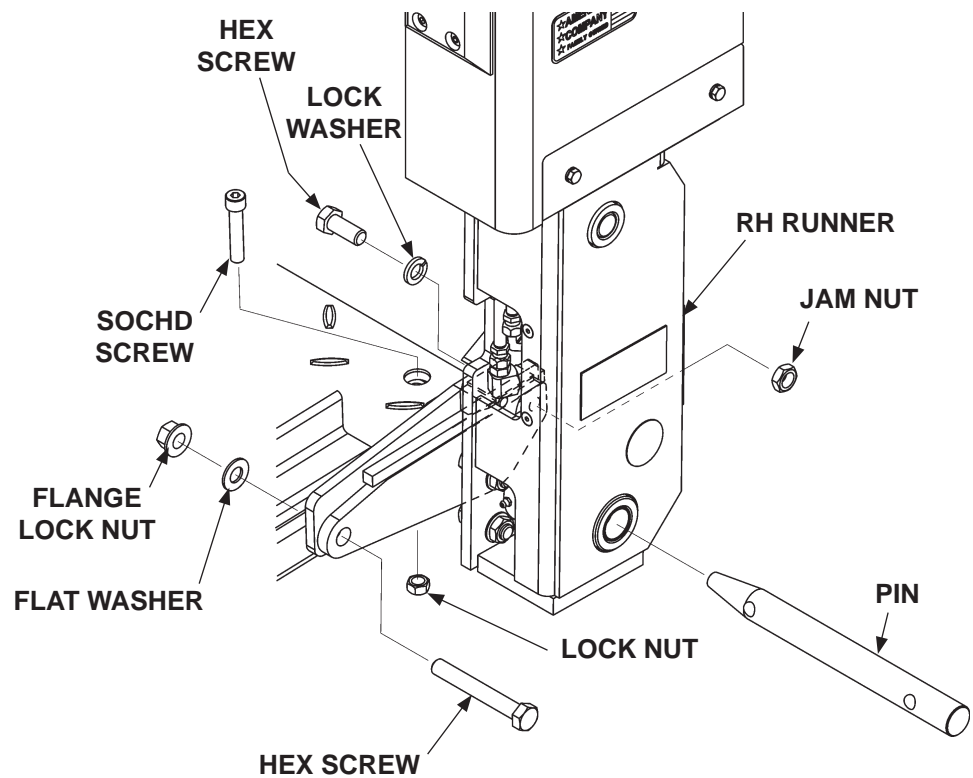

FIG. 27-2
4. Unbolt platform and connector bar from pin at the RH runner (**FIG. 27-2**). Then, remove pin. Repeat for LH runner.